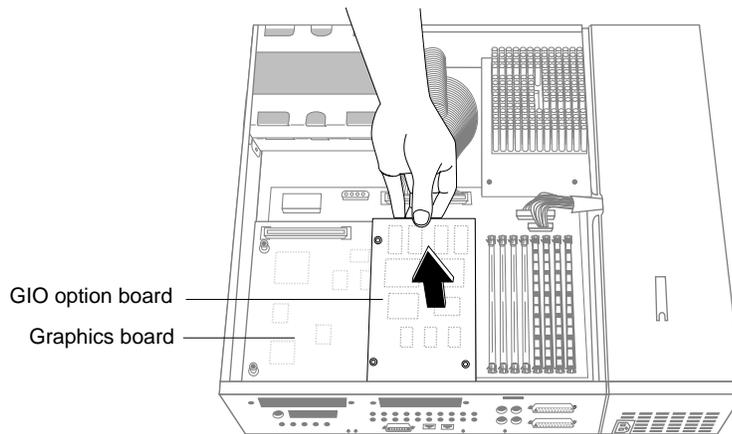

Figure 1-9 Disconnecting the GIO Option Board
- Disconnect the GIO board from the graphics board by grasping the GIO board firmly and pulling it up, as shown in Figure 1-9.